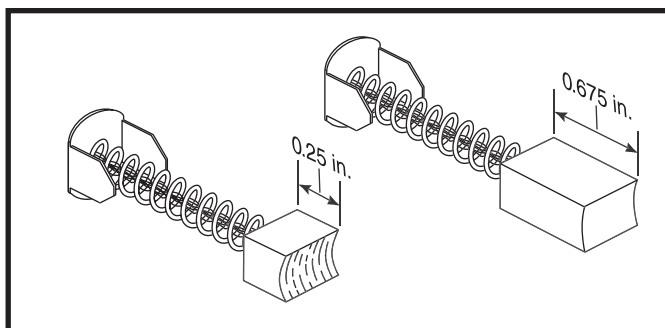

Figure 34. Motor Brushes
- *If the brushes are worn below 0.25 in. or they are physically damaged*, then replace the brushes and retest the system. **See figure 34.**
- *If the brushes are not worn below 0.25 in. or they are not damaged*, then replace the right motor (9) and retest the system.